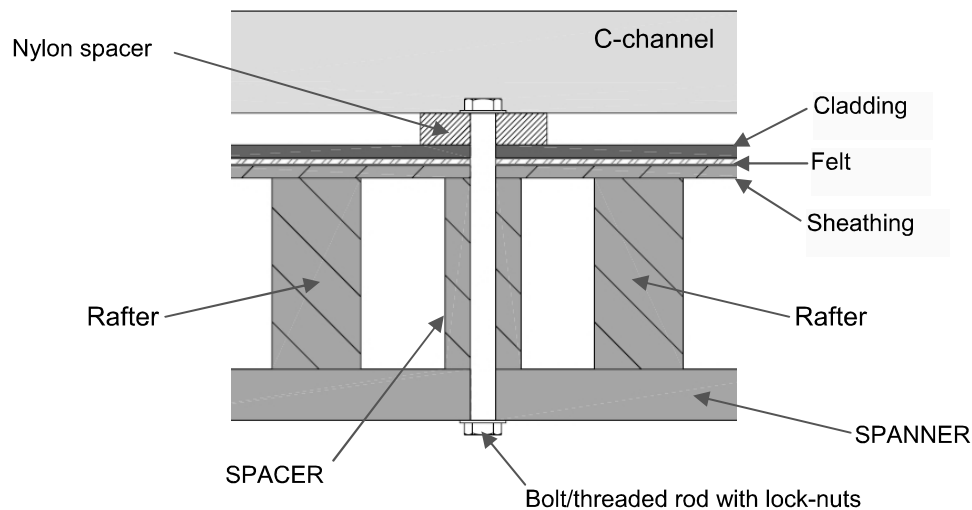

Fig. 5.3.1 – C-channel secured to spanner.
- Metal or wood (2" x 4" (5.08 cm x 10.16 cm) min.) spanners may be fixed horizontally across rafters. C-channel can then be secured with bolts or threaded rods (Ø3/8") and lock-nuts instead of lag-bolts (Fig. 5.3.1). Spacers should be used between roof board and spanner to limit bowing and flexing of roof sheathing and spanner.